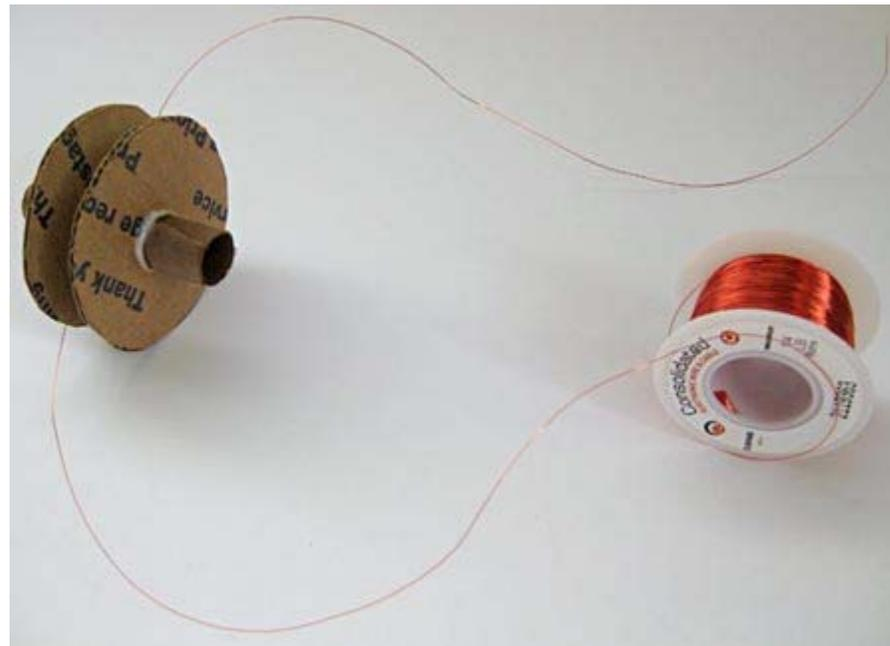

Figure 6. Tape the magnet wire to the inside of one of the cardboard pieces so that there is about 30 cm of wire dangling off of your coil form.
- b. Use tape to secure the wire to the inside of one of the pieces of cardboard, about 30 cm from the end of the wire. This means you should have about 30 cm of wire dangling off of your coil form, as shown in Figure 6.